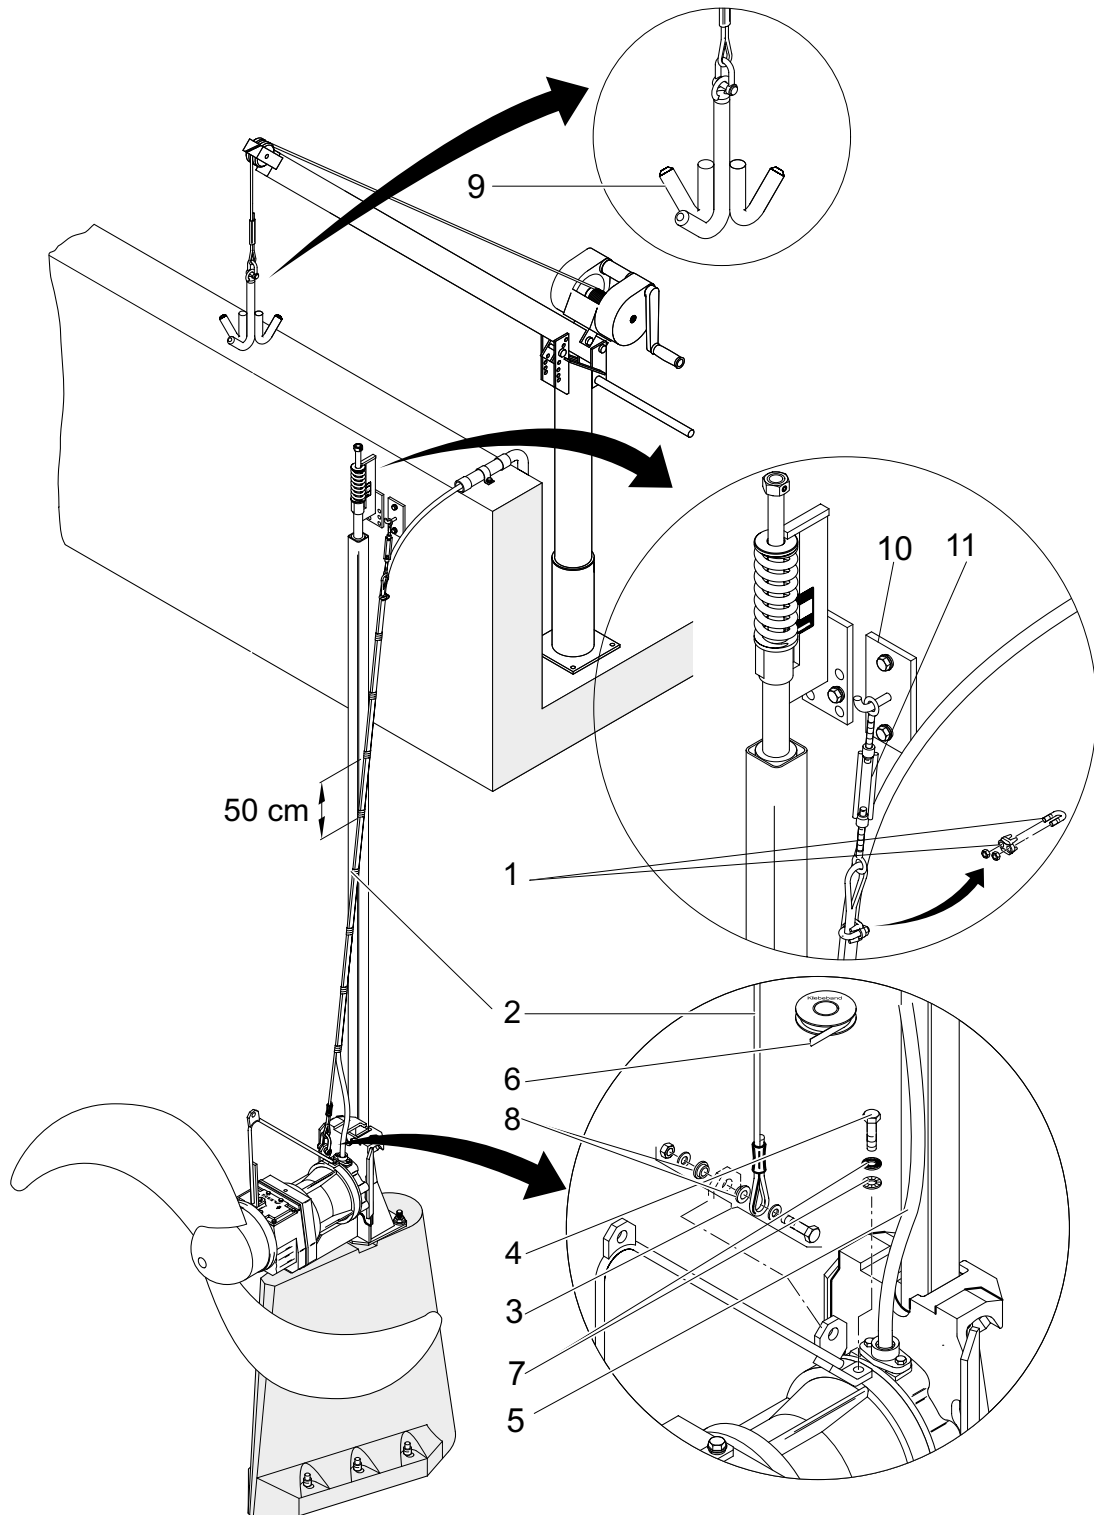

Figure 14 Fitting of cable tensioning device
- Then fix the power cable (in distance of abt. **50 cm**) to the steel cable as per *Figure 14* using the special adhesive tape (14/6) supplied.